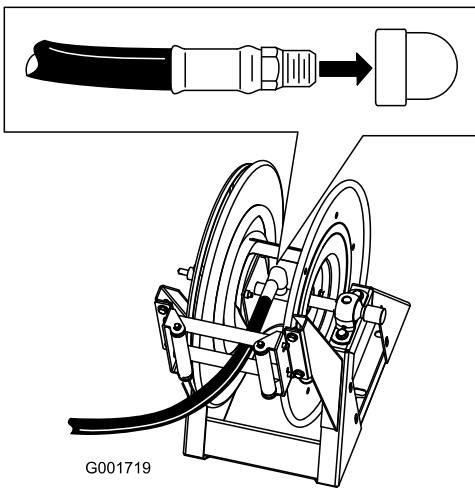

Figure 13
1. Wrap Teflon® tape around the threads of the hose fitting on the long hose, and install the fitting into the connecting tube on the reel (Figure 13).